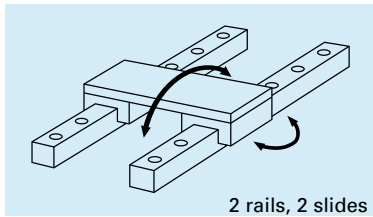
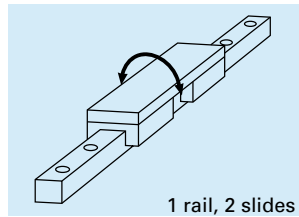
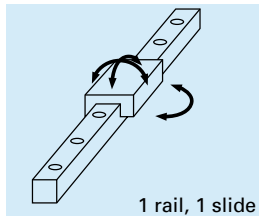

Fig. 3.6 Pitching and yawing direction
Fig. 3.7 Rolling direction
Fig. 3.8 All directions
- However, in cases as shown in **Fig. 3.6**, **Fig. 3.7** and **Fig. 3.8**, it is necessary to take into account the moment rigidity in addition to the radial rigidity.